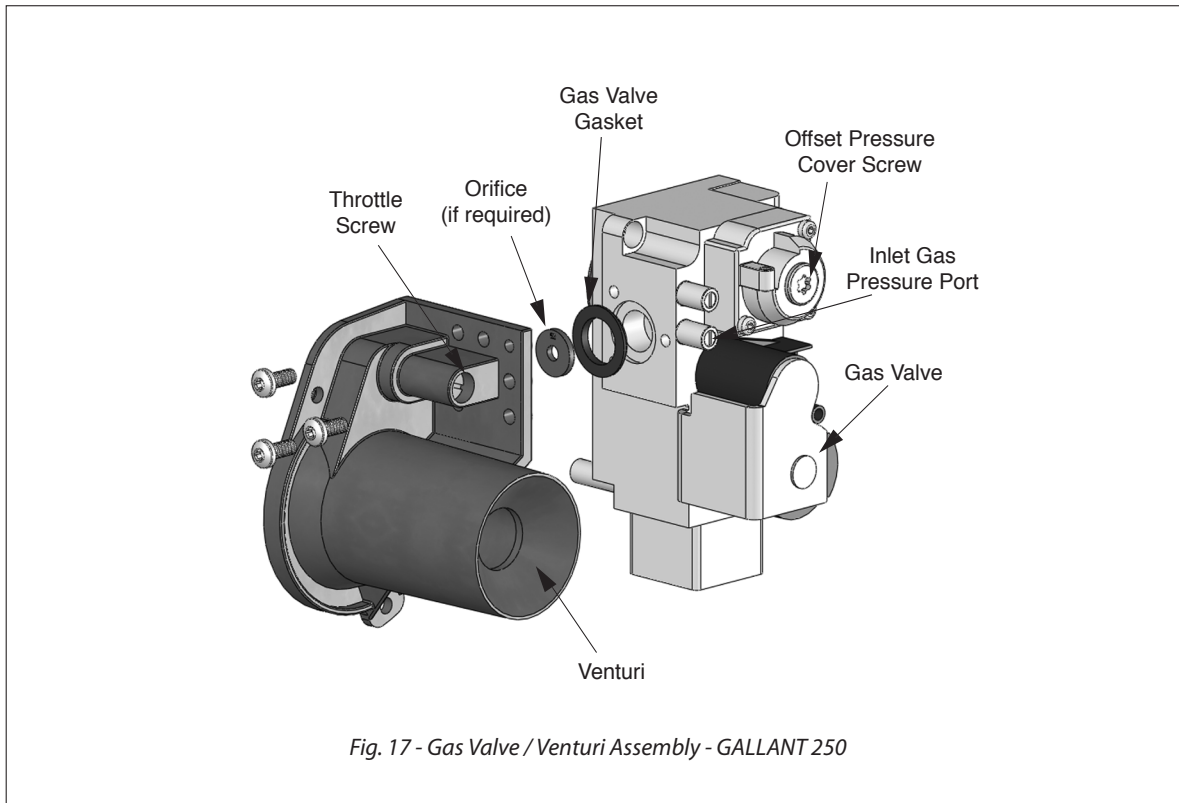
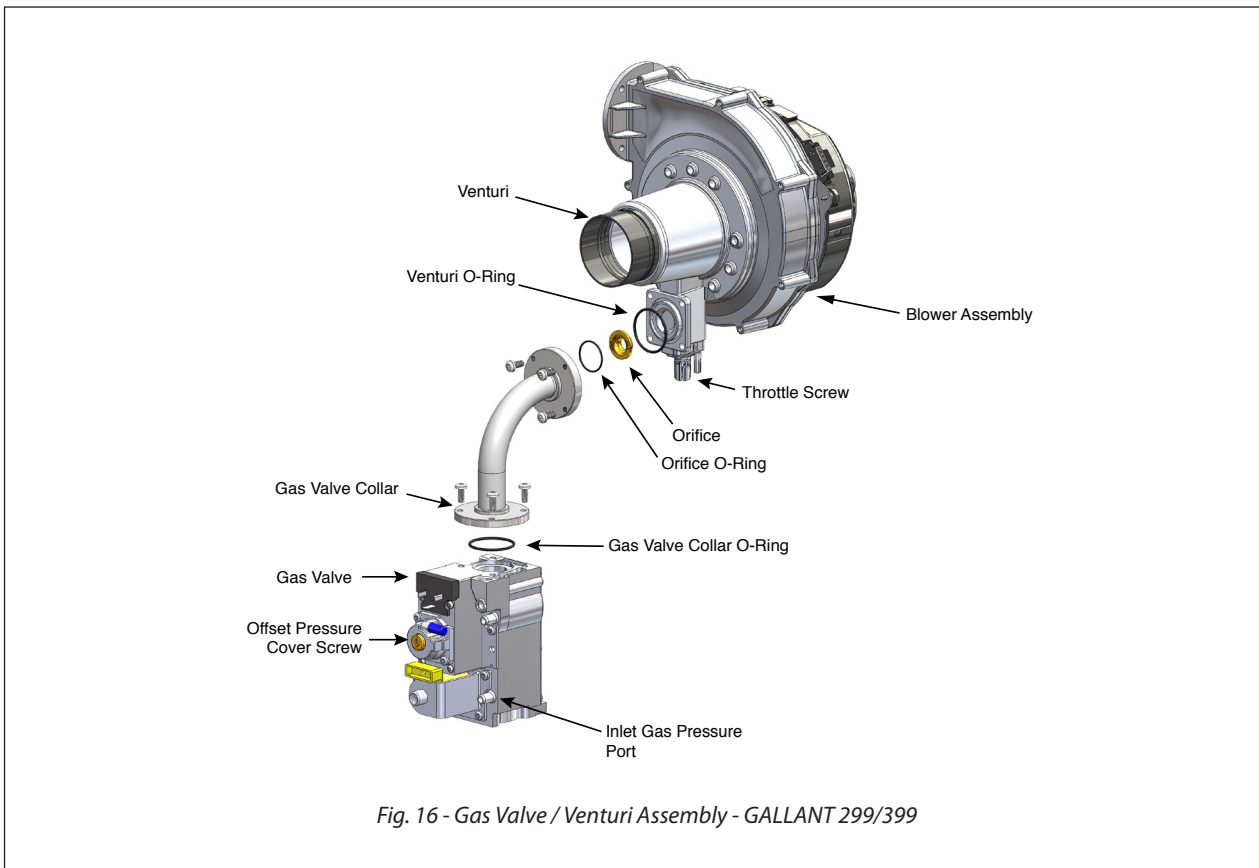

Fig. 17 - Gas Valve / Venturi Assembly - GALLANT 250
Fig. 16 - Gas Valve / Venturi Assembly - GALLANT 299/399
- **Prior to start up, ensure the unit is set to fire propane. Check the rating label for the type of fuel. Check the gas valve for propane conversion label. If there is a conflict or doubt on the burner set up, remove the gas valve and check for the propane orifice, see Fig. 16 or Fig. 17 on page 28 or Fig. 16 on page 28.**